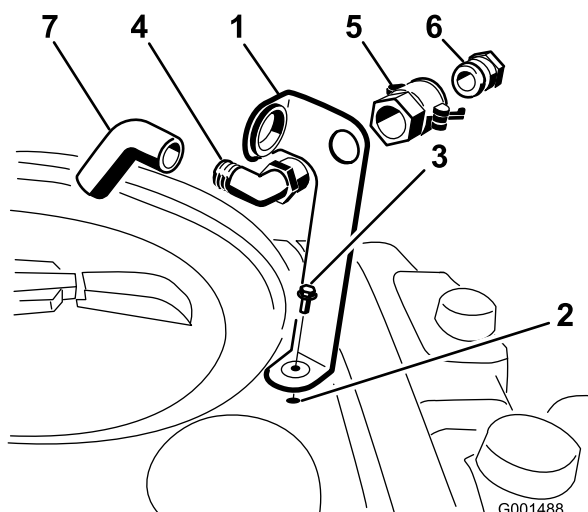

Figure 3
1. Place the fill receptacle bracket over the threaded hole in the tank and secure it with a flange-head bolt (5/16 x 3/4 inch) (Figure 3).
2. Place the threaded end of the 90 degree elbow fitting through the bracket and thread the quick coupler onto it, securing it to the bracket (Figure 3).
3. Install the hose adapter into the quick coupler (Figure 3).
4. Lock the adapter into place by swinging the levers toward the adapter and then secure them with the hairpin cotters (Figure 3).
5. Install the anti-siphon hose on the barbed end of the 90 degree elbow fitting (Figure 3).